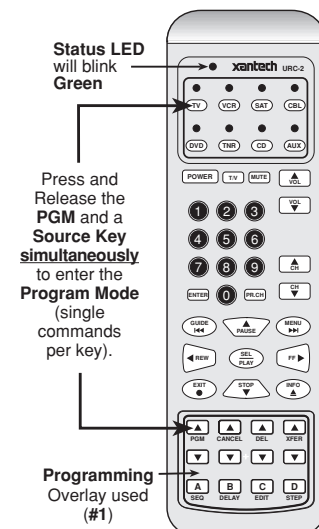

Fig. 6
3. Press and release the **PGM Key** & any desired **Source Key** both at the same time. Refer to **Fig. 6**.